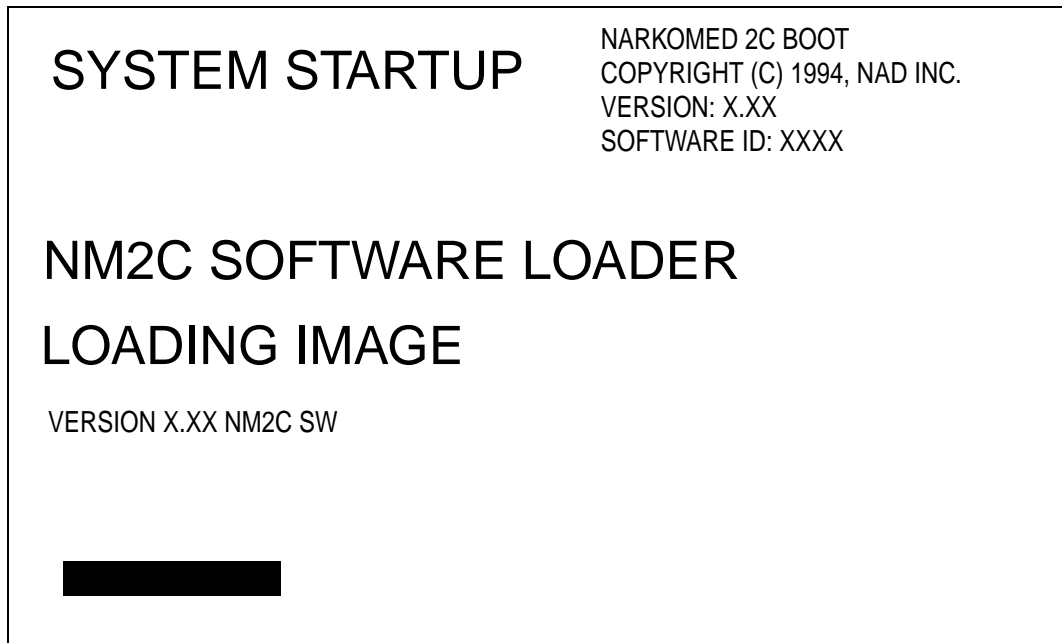

Figure 6. Narkomed 2C Load Mode Screen
3. Press and hold the SILENCE and AUTOSET keys on the remote display, and turn the System Power switch to ON. Release the keys when the load mode screen shown in Figure 6 appears.